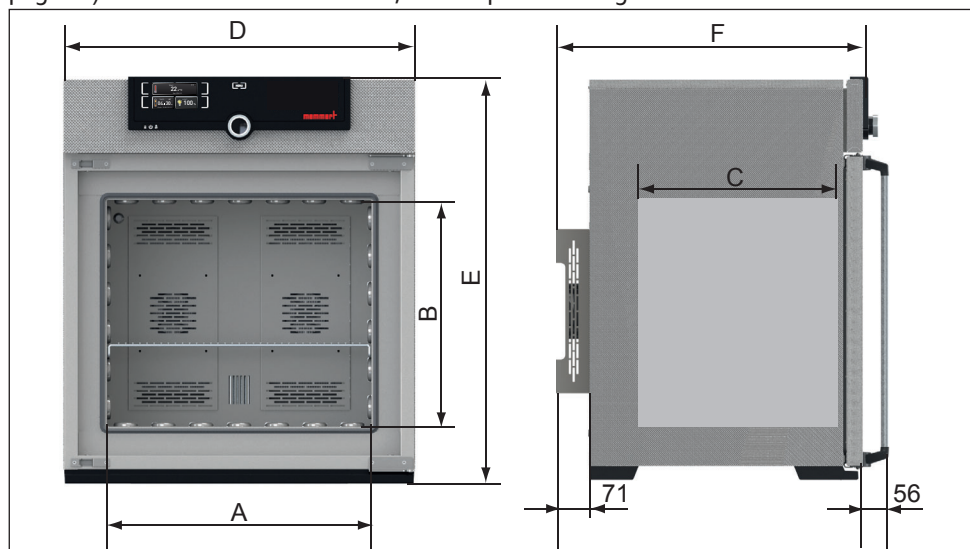

Fig. 5 Dimensions
* see Fig. 5 on page 13.
¹ see Fig. 5